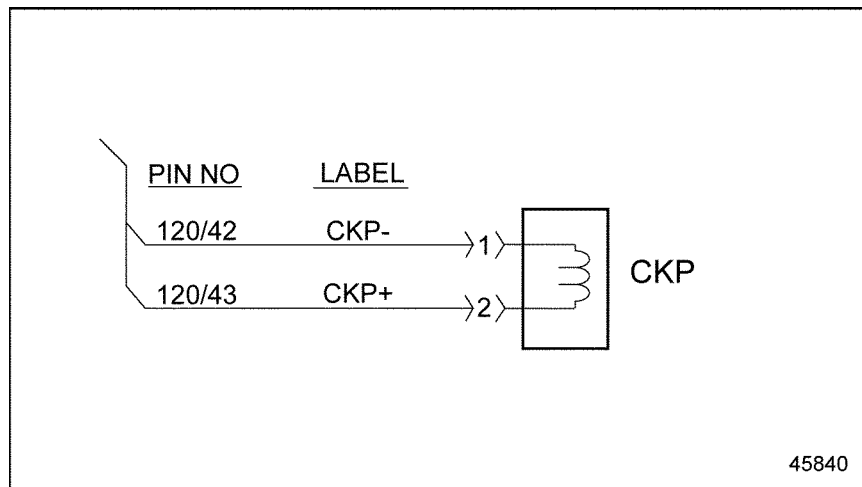

Figure 56-1 Crankshaft Position Sensor Wiring
1. If fault occurs only when cranking the engine (and engine will not start), check that the CKP and Camshaft Position (CMP) sensors are correctly wired to the MCM. See Figure 56-1.